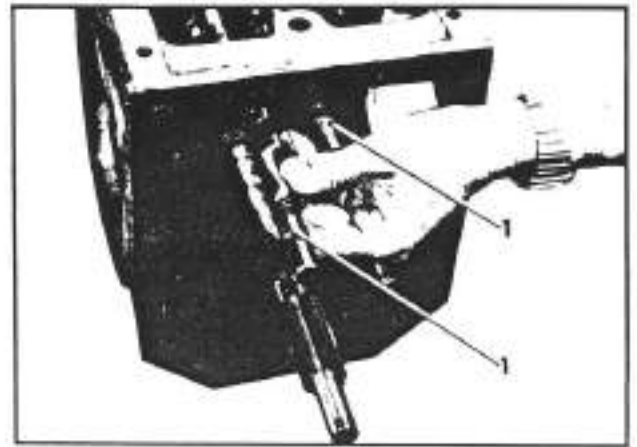

Fig. 3-29. Removal of the speed selector rods
- f. Extract the speed selector rods (1; fig. 3-29).